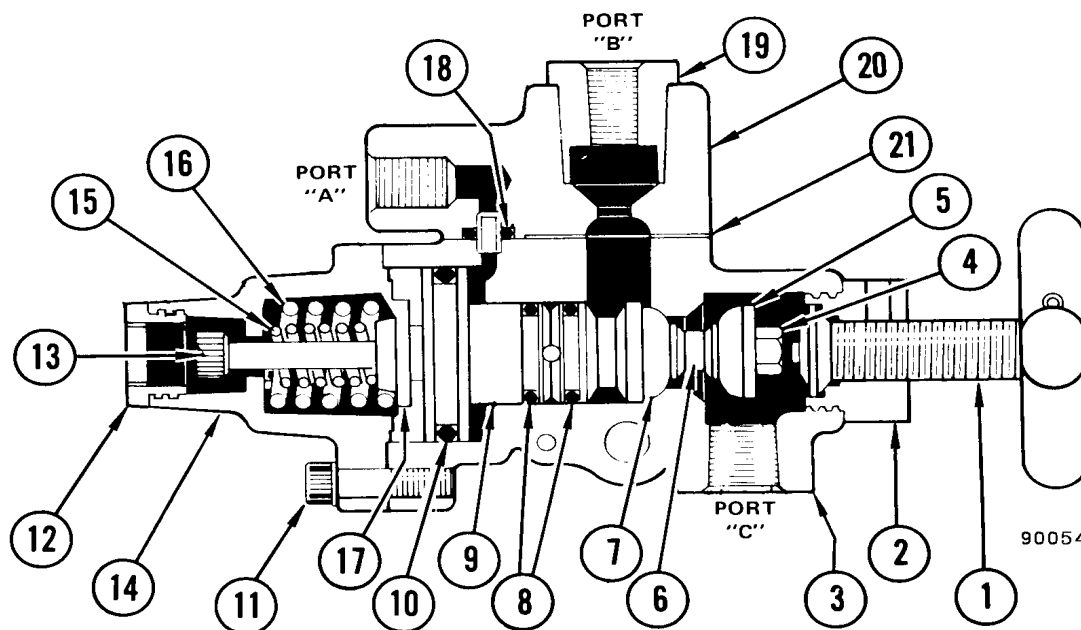

FIGURE 3-3. AUTOMATIC/MANUAL DRAIN VALVE ASSEMBLY
1. Remove cap (2, Figure 3-3) with shut-off valve (1).
2. Remove capscrews (11) securing spring cap (14) to body (3).
3. If spring (15 or 16) needs replacing, remove dirt cap (12) and shoulder bolt (13).
4. Remove seat bolt and washer (4) securing valve seat (5) to seat spacer (6). Remove seat spacer and valve seat.
5. Slide piston (9) out of valve body. Replace all O-rings before reassembly.
1. Install valve seat (7, Figure 3-3) and slide piston (9) with new O-rings into valve body (3).
2. Install seat spacer (6) and valve seat (5) using seat bolt and washer (4).
3. If removed, install springs (15 & 16) and seat washer (17). Install spring cap (14) using cap-screws (11).
4. Install shoulder bolt (13) and replace dirt cap (12).
5. Install shut-off valve (1) and cap (2).